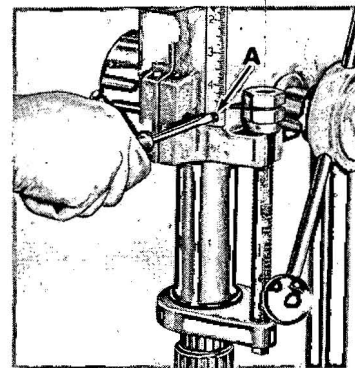

Figure 4
2. Loosen screws and with quill at maximum travel, position scale so pointer is at  $4\frac{3}{4}$ ", then tighten screws (A, fig. 4).